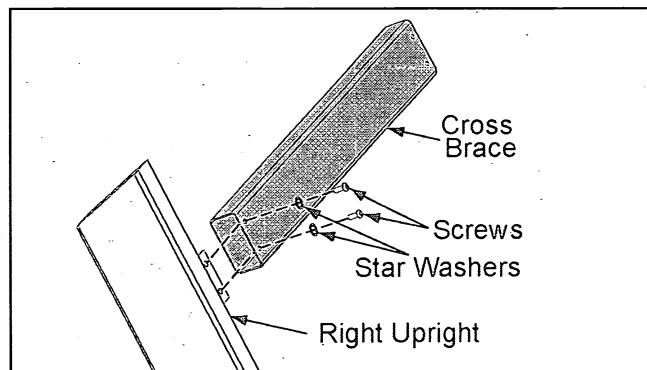

Figure 4
- Attach the upright cross brace to the right upright using two button head screws and two star washers. Finger-tighten the screws, leaving them fairly loose at this time. See Figure 4.